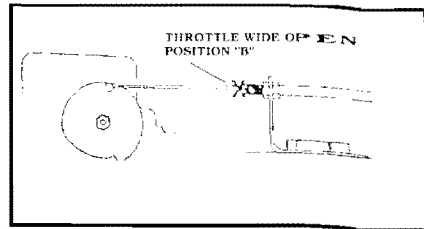

Figure 5
B. Depress accelerator pedal and make a mark on the throttle cable when the throttle is in the wide open position. **Figure 5**